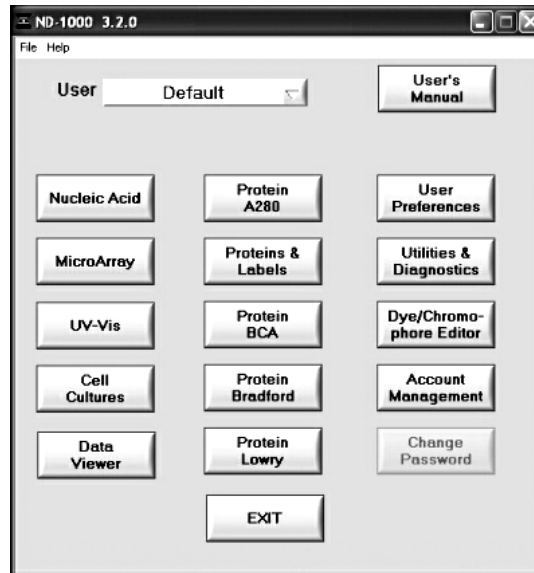

Figure1 Application Modules
- 6.4 Select the desired analysis application module from the array of Application Modules on the screen as in Figure 1.